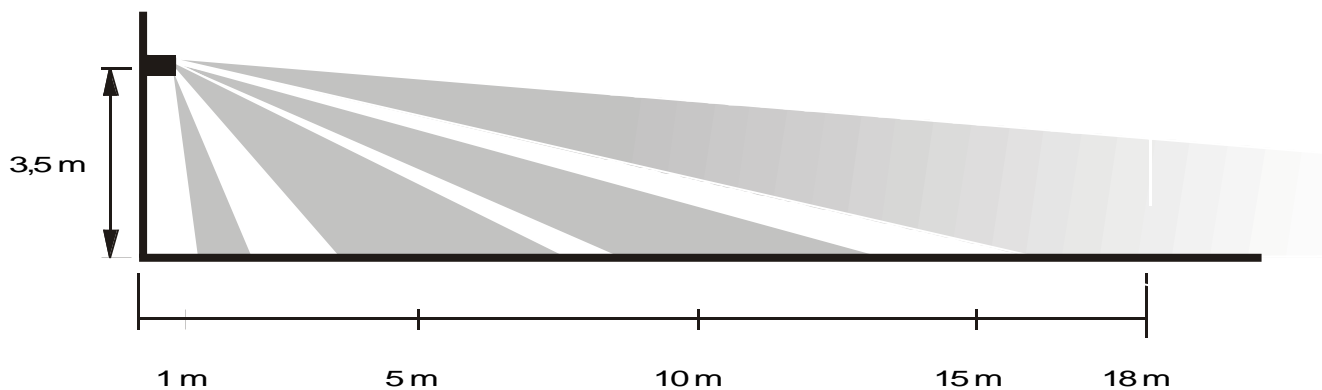

Fig. 1
The PIR-018 should be aligned vertically so that at least the lower half of a person standing upright at the maximum required range will be within the field of view (see Fig. 1 below).
**Note:** The detection patterns of Fig. 1 and 2 are for illustration of the volumetric coverage of the detectors. Actual detection zones depend on the mounting height and exact alignment.